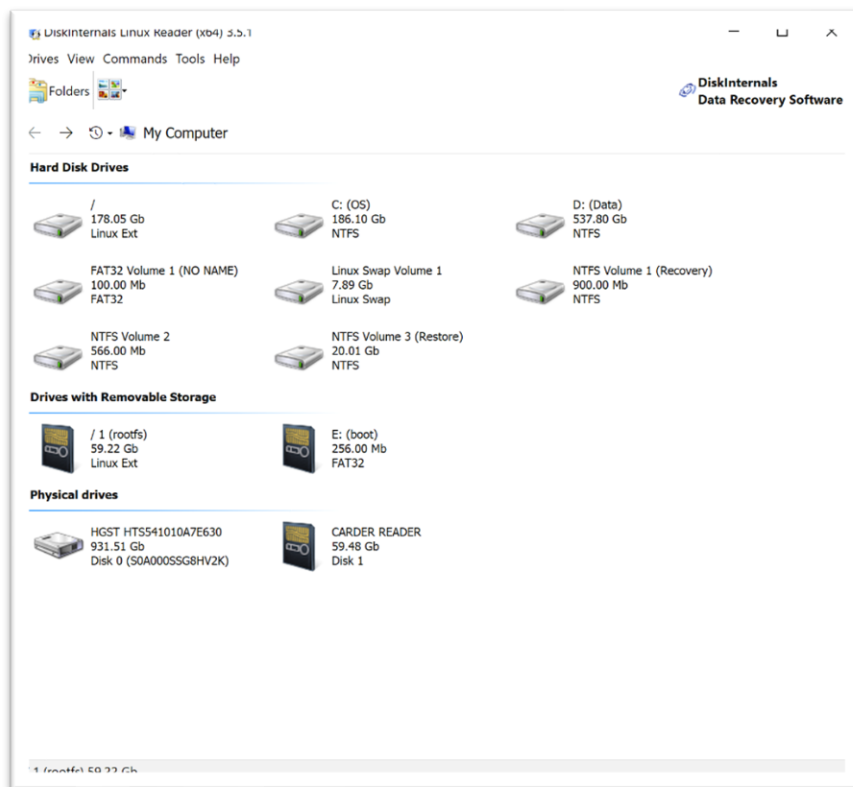

Figure 24. The DiskInternals Linux Reader Interface
- Launch the DiskInternals Linux Reader to see and copy the files (Fig. 24).